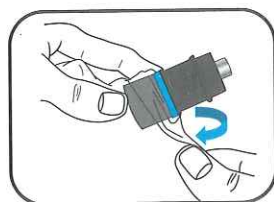

Figure-05
- Insert Balloon Adapter into balloon opening and roll the O-Ring into place on the upper groove of the adapter (Figure-05).